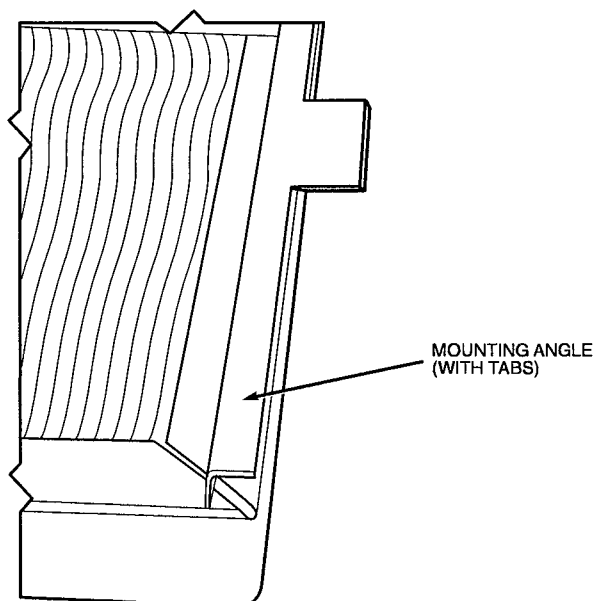

Fig. 22 — Mounting Angle (With Tabs) Attached to Filter Track Assembly
15. Attach remaining mounting angle (with tabs) to other end of the filter track with no. 10 screws provided. See Fig. 22.